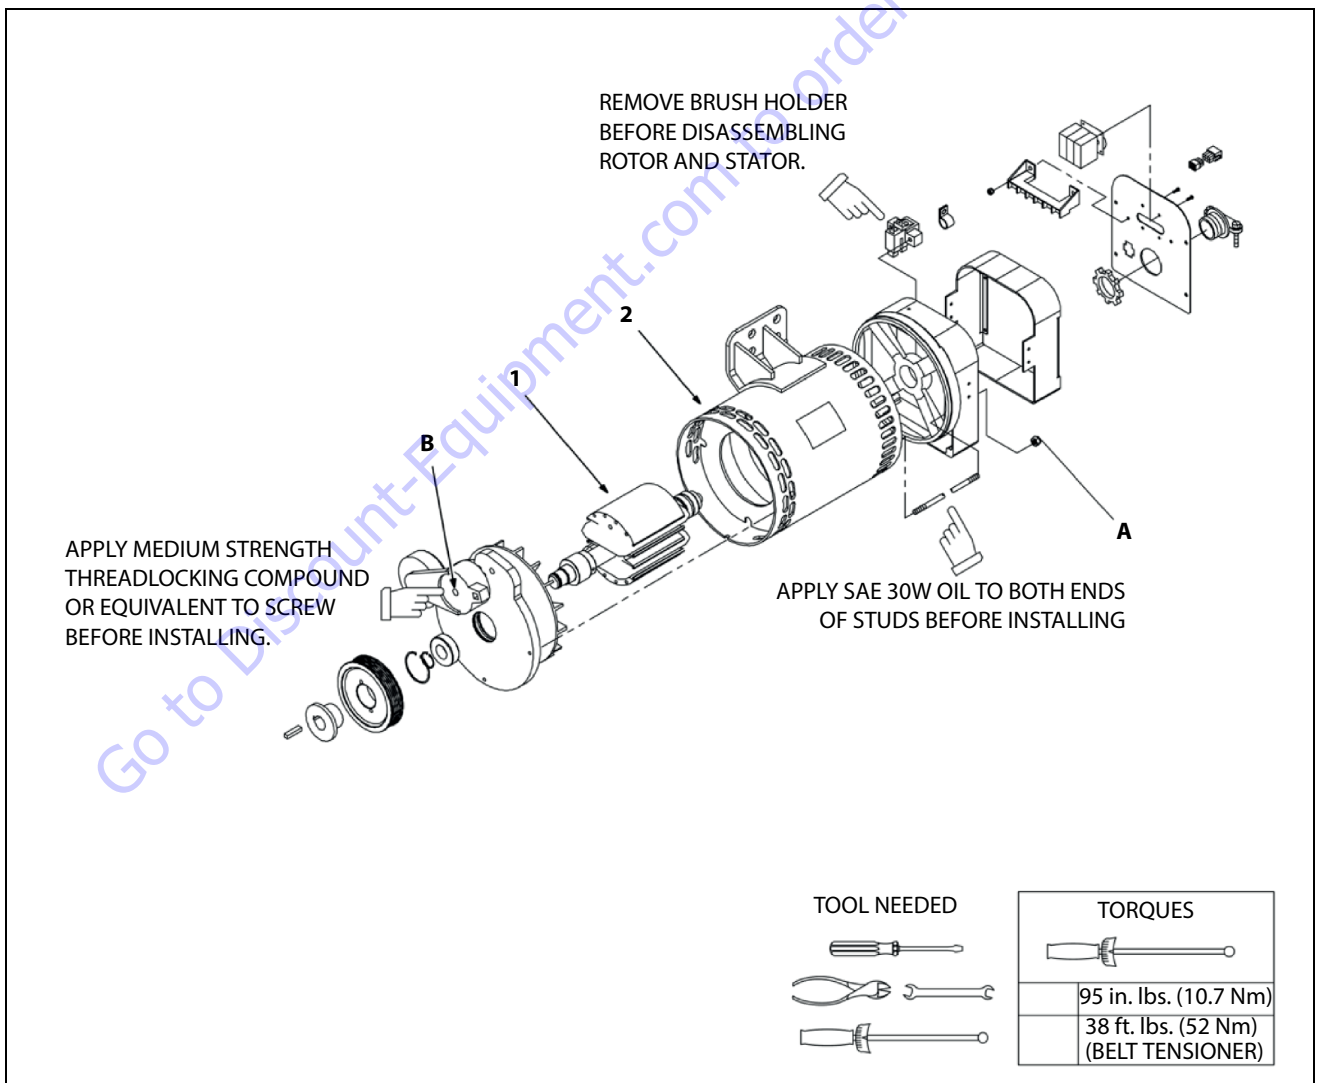

Figure 3-70. Generator Disassembly and Assembly
3. Disassemble generator parts shown in Figure 3-70.